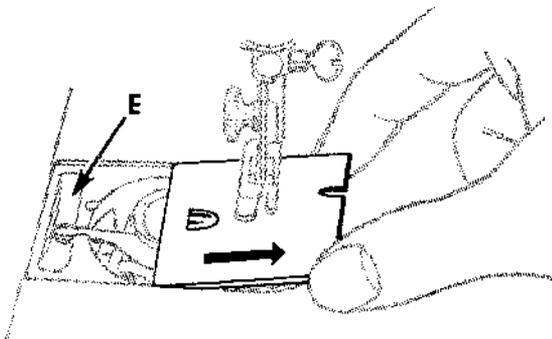

FIG. 53.
- Lift edge of slide plate and draw it to the right until it is disengaged from spring E, Fig. 53.